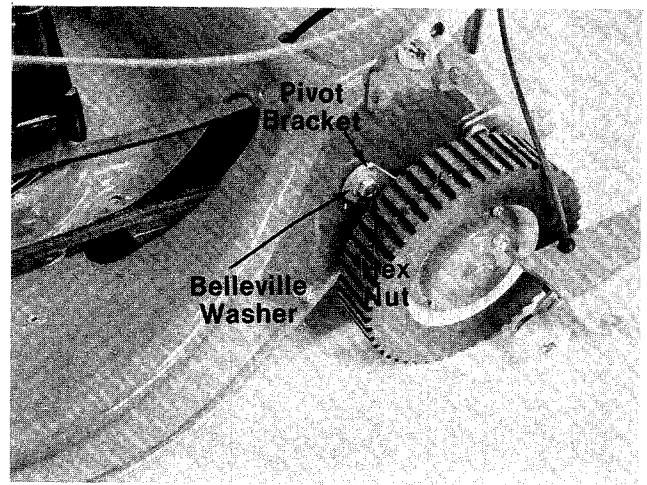

FIGURE 22.
6. Remove hex nut and belleville washer from height adjustment lever on left side of mower as shown in figure 22.